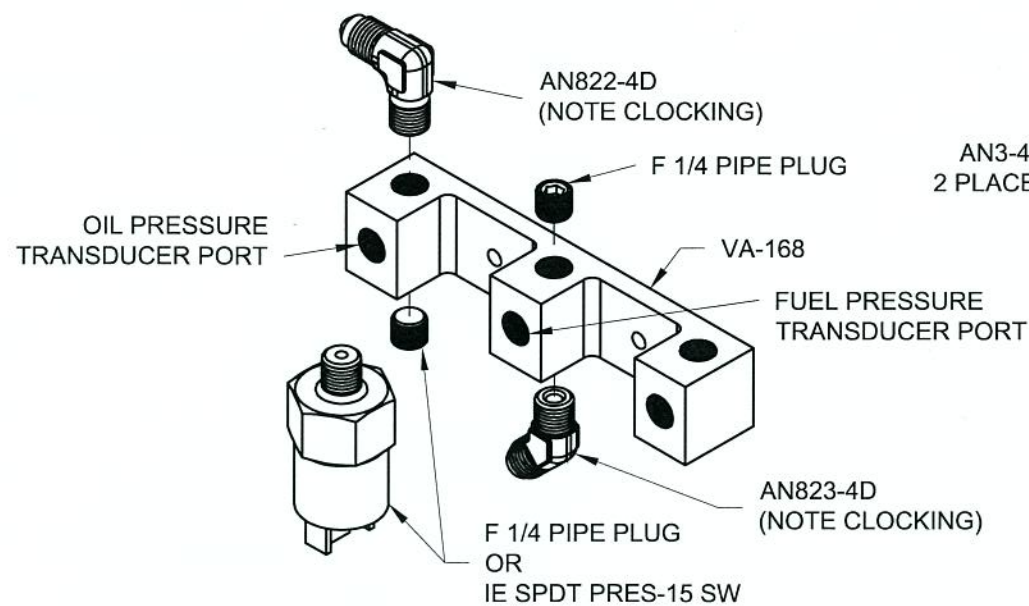

FIGURE 1: PREPARING THE SENDER MOUNT
Step 1: Install the hardware shown in Figure 1 to the VA-168 Sender Mount. Install the fuel and oil pressure transducers at this time as shown in Figure 1. The pressure senders are not included in the kit. If you plan on controlling the hobbs meter with oil pressure (the most common method), install a IE SPDT PRES-15 SW Oil Pressure Switch in place of the lower pipe plug fitting, see Figure 1. Pressure senders and the oil pressure switch are available through **VAN'S AIRCRAFT ACCESSORY CATALOG**.